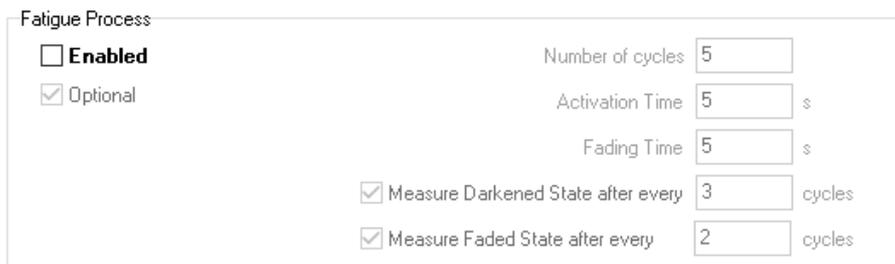

Figure 3.12
The *Fatigue Process* allows to study the behaviour of the lenses before, during and after a cyclic fatigue test. When *Enabled* checkbox is selected (Figure 3.12), any settings from the states described in section 3.2.1 Measurement Process panel (p. 20) will be obviated (except for *Initial Delay*).
2. Faded Spectral Scan (if *Measure Faded State* checkbox is selected (Figure 3.12) and the current cycle is a multiple of the cycles for measuring faded state)
4. Darkened Spectral Scan (if *Measure Darkened State* checkbox is selected (Figure 3.12) and the current cycle is a multiple of the cycles for measuring darkened state)